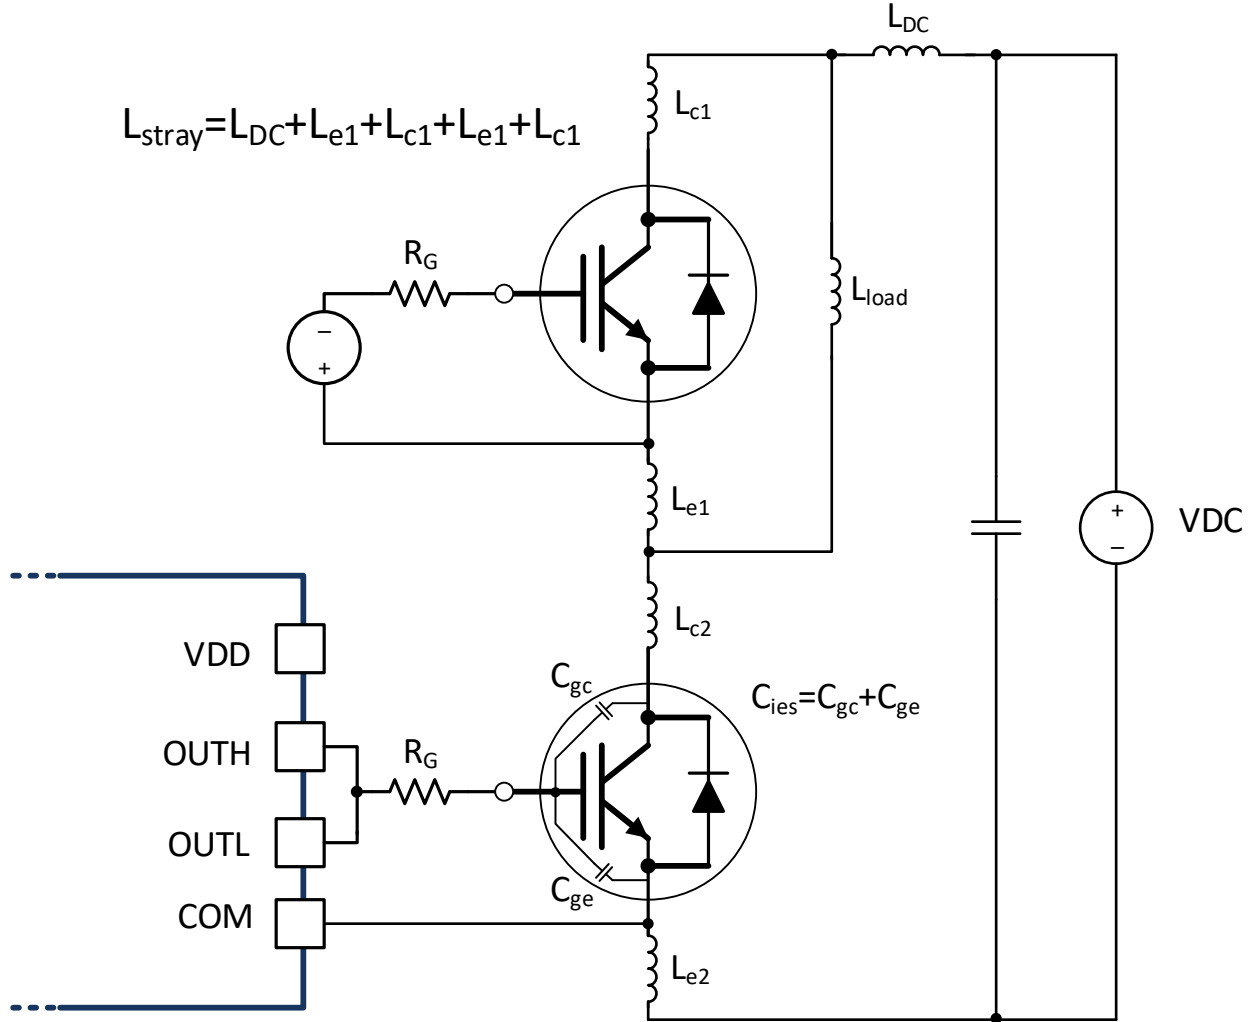

图 9-6. Stray Parasitic Inductance of IGBTs in a Half-Bridge Configuration
- $L_{\text{stray}}$  is the stray inductance in power switching loop, as shown in FIG 9-6